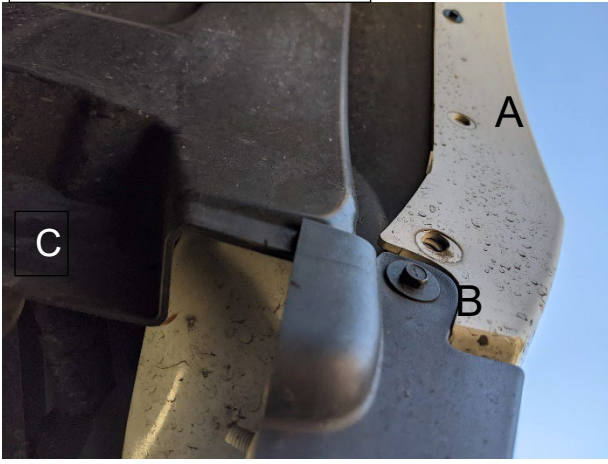
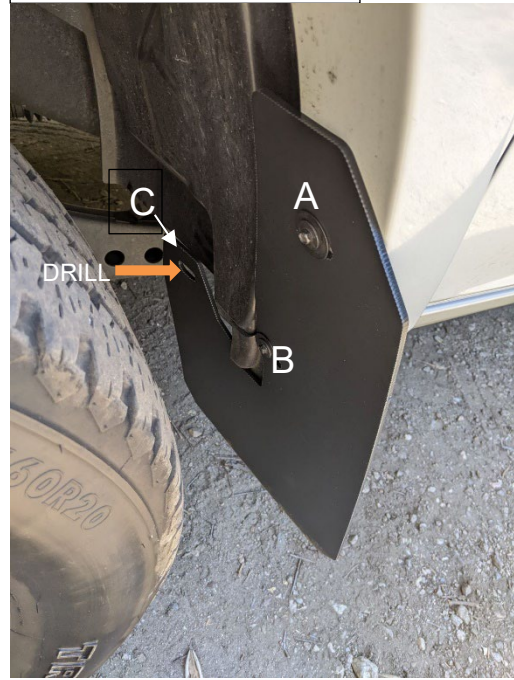
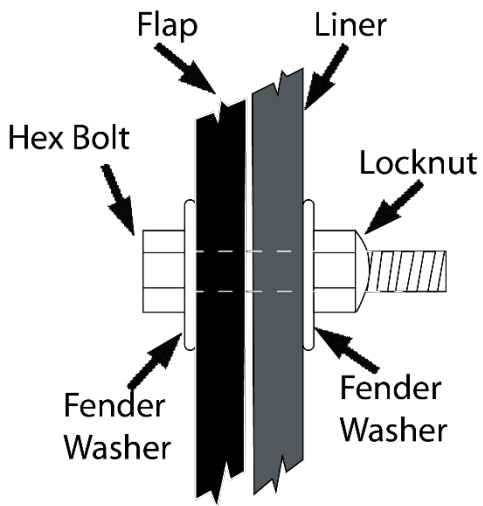

FIGURE 2 (FRONT)
FIGURE 3
FIGURE 4 (REAR)
3. With flap aligned, Mark inside hole location (C) on fender liner. Remove flap and drill 1/4" hole in liner at marked location. (FIGURE 2) NOTE: Turning wheels will allow space to drill through front of fender well liner. If unable to drill from front punch through liner with sharp object & drill hole from back side of liner at this location. (Note: use caution to prevent drill from hitting tire.) Once hole is drilled re-attach flap at location A and B with factory screws and supplied washers. Fasten inside location (C) using supplied hex bolt 2 washers and a locknut. (FIGURE 3)
3. Behind fender well liner you will see a hole in plastic support piece (FIGURE 4). Using this hole as a guide, drill 1/4" hole through fender well liner (Note: use caution to prevent drill from hitting tire.) Once hole is drilled fasten flap to liner at this location using 1/4-20 bolt, 2 washers and locknut (FIGURE 3).
NOTE: SOME MODELS/TRIMS WILL HAVE PLASTIC INSERT AT LOCATION C. IF THIS IS YOUR VEHICLE SIMPLY REMOVE INSERT AND FASTEN W/ SUPPLIED HARDWARE. (FIGURE 3)